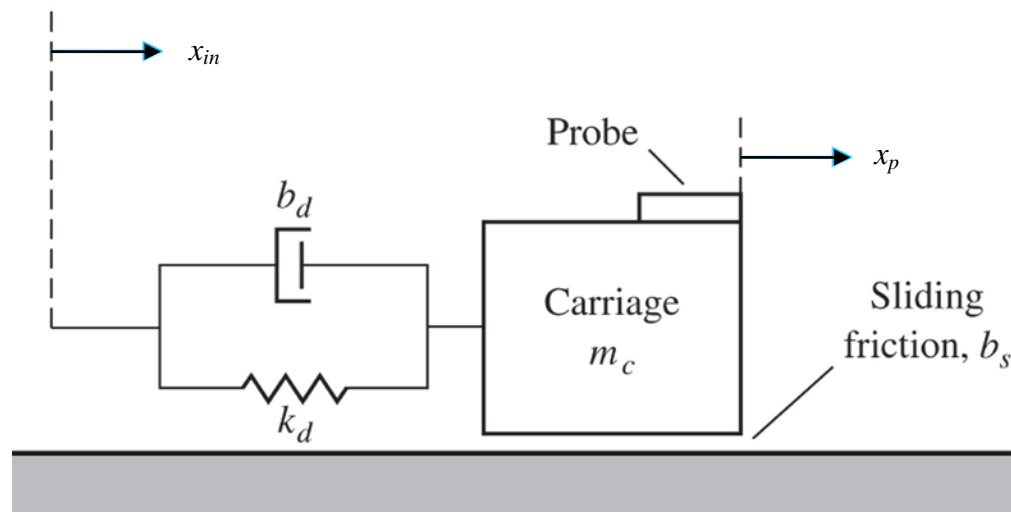

Figure Q1[b]
- [b]** A high precision positioning slide is shown in Figure Q1[b]. The governing differential equation for spring is $dF/dt = kv_{21}$, for mass is $F = Mdv_2/dt$, and for friction is $F = bv_{12}$. Determine the transfer function $X_p(s)/X_{in}(s)$ when the drive shaft friction is $b_d = 0.7$, the drive shaft spring constant is $k_d = 2$, carriage mass is $m_c = 1$, and the sliding friction is $b_s = 0.8$.